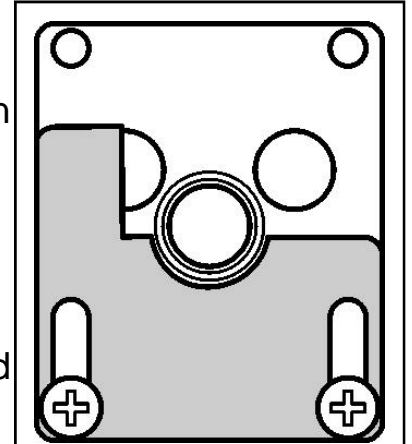

Figure 30. Aeration shutter setting.
1. The aeration shutter is factory set. It is important to ensure that the aeration setting is correct (See figure 30).
2. If the setting is not as shown in figure 30 adjust the aeration shutter setting. To do this loosen the two aeration shutter screws, slide the aeration shutter to the desired position and tighten the screws.